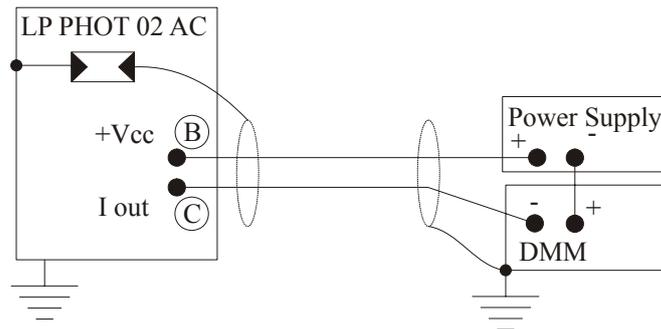

Fig. 8
- LP PHOT 02 AC is to be connected to a DMM and a power supply as show below (Figure 8). To read the signal, the load resistance must be  $\leq 500\Omega$